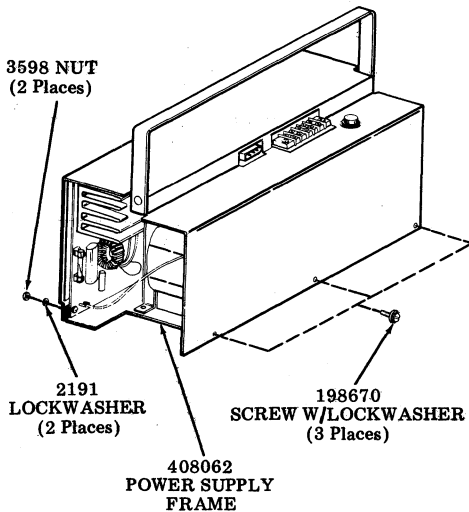

Fig. 6
- The late design power supply cover is secured with screws and nuts installed to sides of power supply frame as shown in Fig. 6.
- (a) Remove three 198670 screws from right side of power supply (Fig. 6).